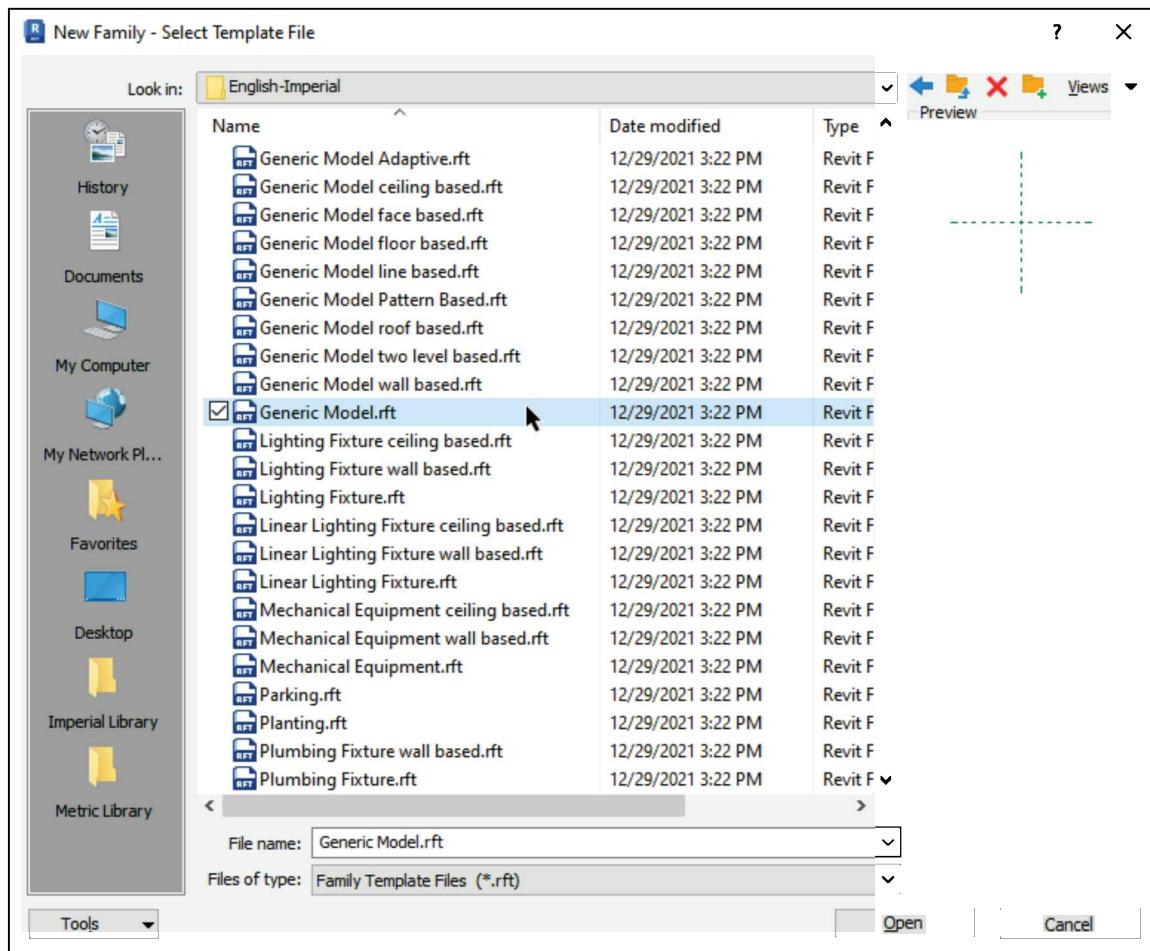

FIGURE 17-2.2 Selecting a Family template file
3. In the English-Imperial folder, select **Generic Model.rft** and then click **Open** (Figure 17-2.2).